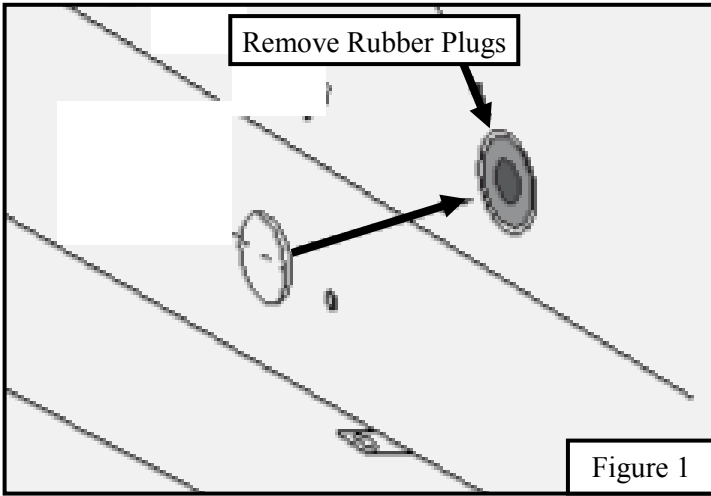

Figure 1
1. Starting on the driver side, remove the rubber plugs located on the rocker panel at each mounting location. See **Figure 1**.